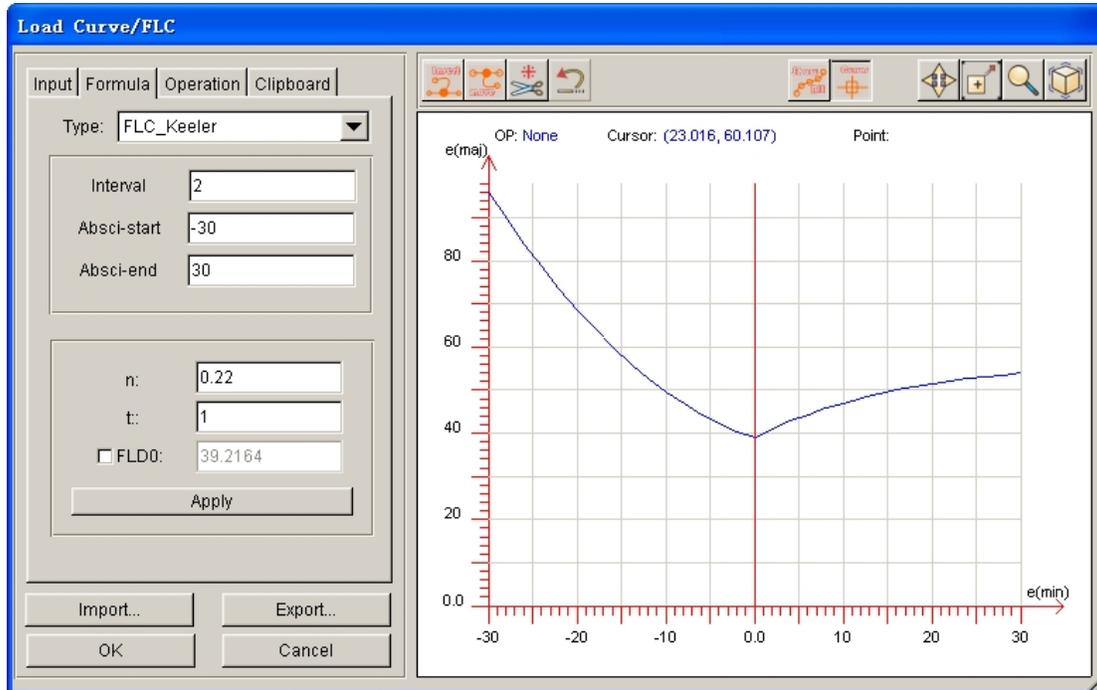

Figure 8.2.22 FLC Curve
**Forming Limit Curve (FLC):** This parameter should be defined if material type 39 is chosen. If no FLC curve is defined, <NONE> is displayed at the FLC input field. To define FLC curve, click  button to display the FLC curve edit dialog box illustrated in Figure 8.2.22.
In the FLC curve edit dialog box, the user may enter the FLC data points directly in INPUT page. Alternatively, the user may define FLC curve using KEELER’s FLC empirical equation provided in the FORMULA page. After entering the n and t values, click the APPLY button to generate the FLC. The FLC curve is displayed in the show curve interface illustrated in Figure 8.2.22. Detailed description of curve edit operation is provided in Section 8.4.6.5.